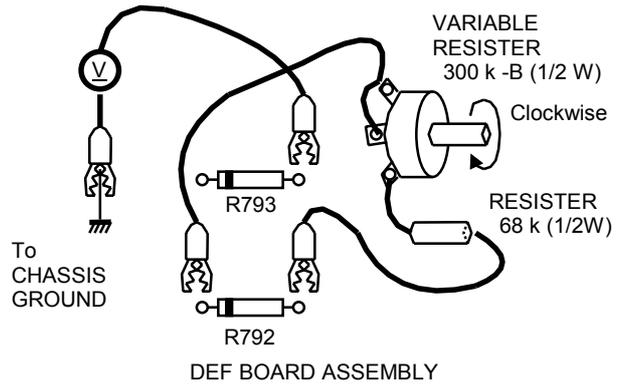

FIG. 2 CHECKING CIRCUIT USING JIG
3. Connect a DC Voltmeter and an adjustment jig as shown in Fig. 2.